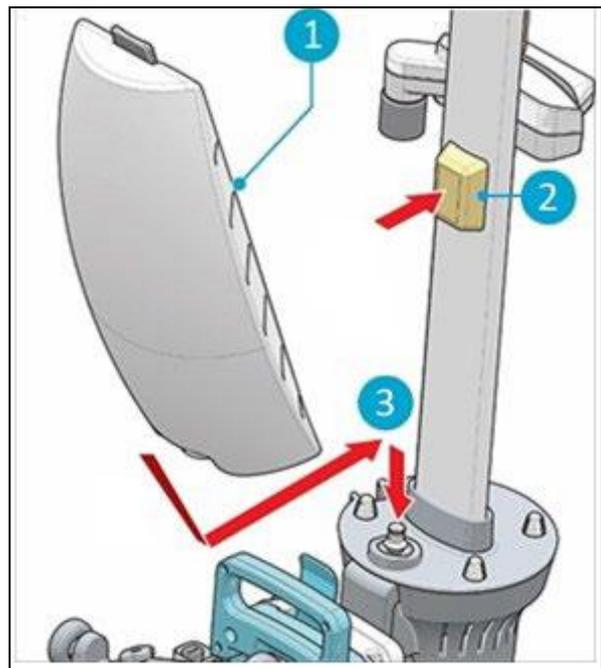

Figure 11
1. Put the tank (Figure 11, pos 1) on the imop® Lite with the valve first.
2. Press the tank downward on the nipple (Figure 11, pos 3) to open the valve seal.
3. Push the tank forward into place, the magnet (Figure 11, pos 2) will lock the solution tank in place.